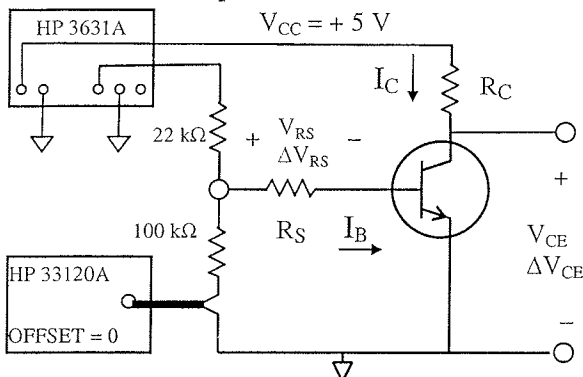

Fig. 2.1. Test Circuit and Monitor Display
The circuit shown in Figure 2-1 is designed to safely test a 2N3704 at $V_{CE} = 2$ Volts. The worst case power dissipation occurs when testing for $I_C = 30$ mA. $I_C = 15$ mA, $V_{CE} = 2.5$ V can occur during that test to produce 37.5 mW. Voltages and currents are well below maximum specifications.
- (1) Measure $R_S \approx 33.0\text{k}\Omega$ and adjust $V_{CC} \approx 5.00\text{V}$. Record this data in Table 3-1.
- (2) Construct R_C for the nominal I_C . Measure R_C . Record R_C in Table 3-1. Install R_C .
- (3) Observing the scope, adjust the E3631A +25V supply to obtain the operating point and the 33120A amplitude to obtain a display similar to Figure 2.1.
- (4) Using the DMM (dc), measure and record V_{CE} , V_{RS} , and V_{BE} in Table 3-1.
- (5) Using the DMM (ac-rms), measure and record ΔV_{CE} , ΔV_{RS} , and ΔV_{BE} in Table 3-1.
- (6) Go to (2)
3.1 Construct the circuit of Figure 2-1. Be sure to set $V_{CC} \approx 5.00$ V and don't change it!